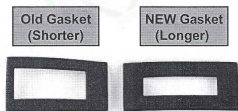
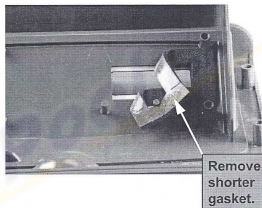

Fig. 15
Fig. 16
1. If the existing bezel gasket is shorter than the new gasket included with this kit (see **Fig. 15**), remove the gasket completely from the bezel (**Fig. 16**).